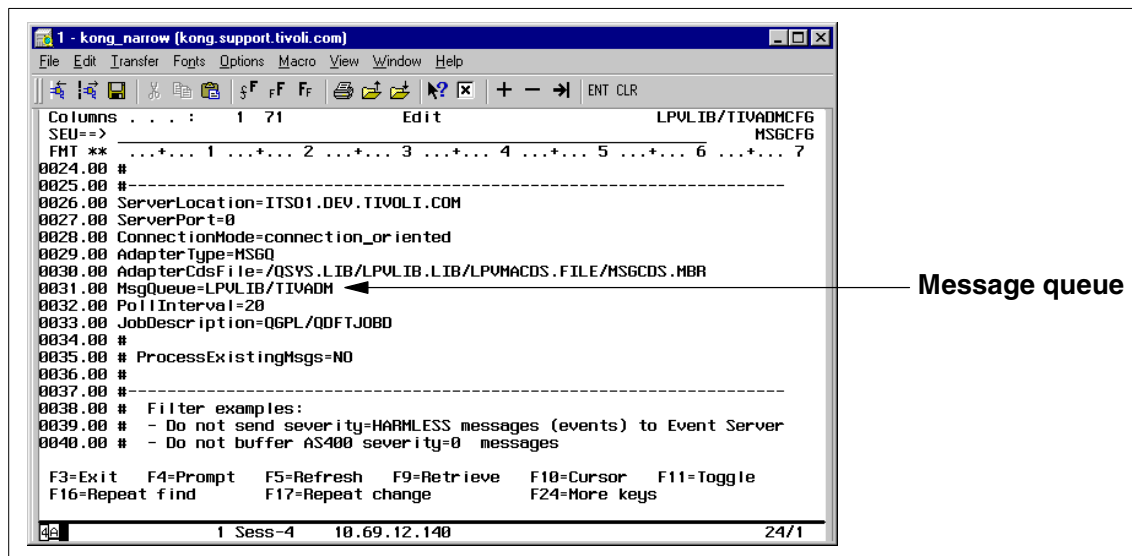

Figure 226. Editing the TIVADMCFG file
- b. Edit this new TIVADMCFG file to specify the LPVLIB/TIVADM message queue shown in Figure 226 on page 378.